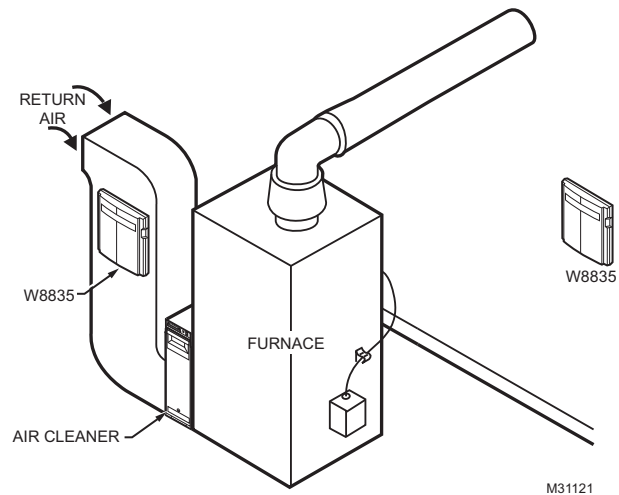

Fig. 2. W8835 mounting location.
3. Mount the W8835 EnviraZone Panel near the HVAC equipment; locate it on a wall or on the cold-air return. See Fig. 2.